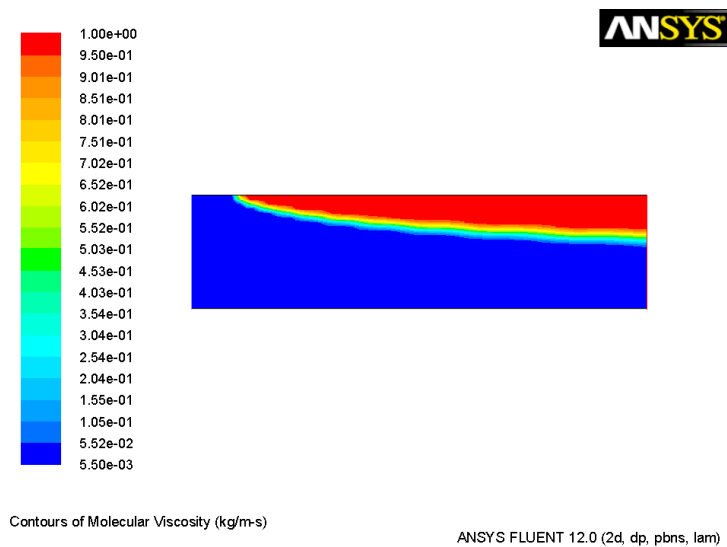

Figure 4: Contours of Molecular Viscosity
- (c) Click Display (Figure 4) and close the Contours dialog box.
Figure 4 shows that when the warmer fluid enters the channel from the left and encounters the cooler wall further on, its viscosity increases according to the user-defined viscosity relation.